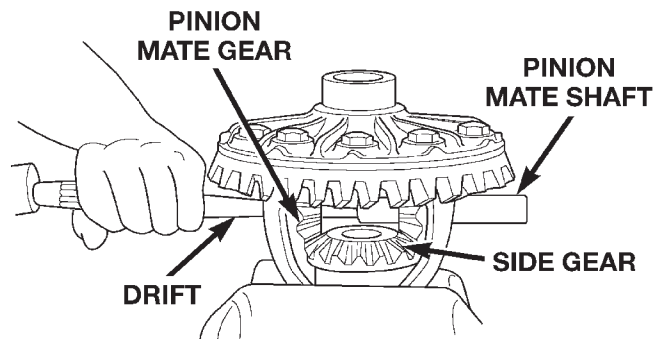

Fig. 54 Mate Shaft Removal
(5) Remove the pinion gear mate shaft. If necessary, use a drift and hammer (Fig. 54).